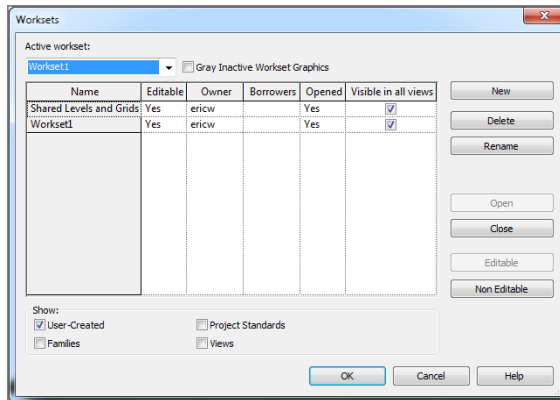

FIGURE 22.4: The Worksets dialog
4. The next dialog is named Worksets, as shown in Figure 22.4. Your two worksets are presented in a spreadsheet format that says they're both editable and you own them. Congratulations. There is plenty to explain here:
- The Show area at the bottom of the Worksets dialog lets you add specific families, project standards, and views to the workset list (see Figure 22.4).